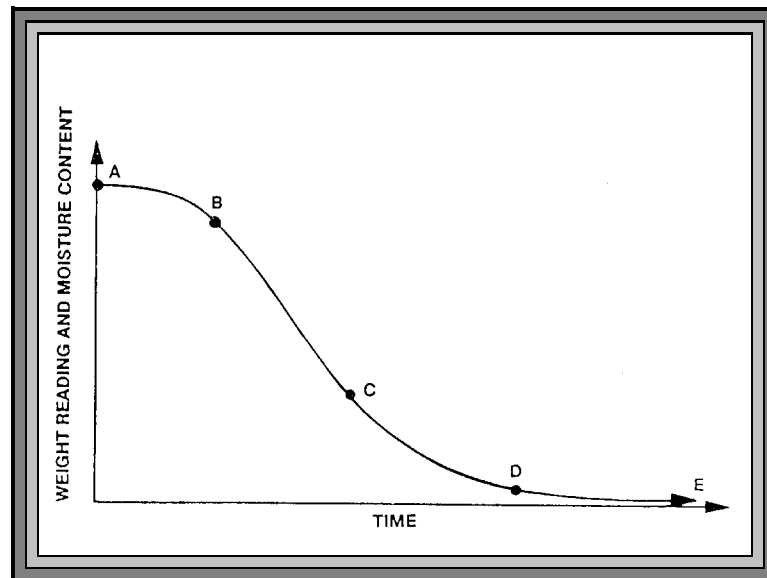

Figure 71 DRYING CURVE
- 11.1.2 A typical drying curve (see **Figure 71** below) consists of three portions: The first portion (A-B) represents the sample's weight loss as it heats from room to testing temperature.